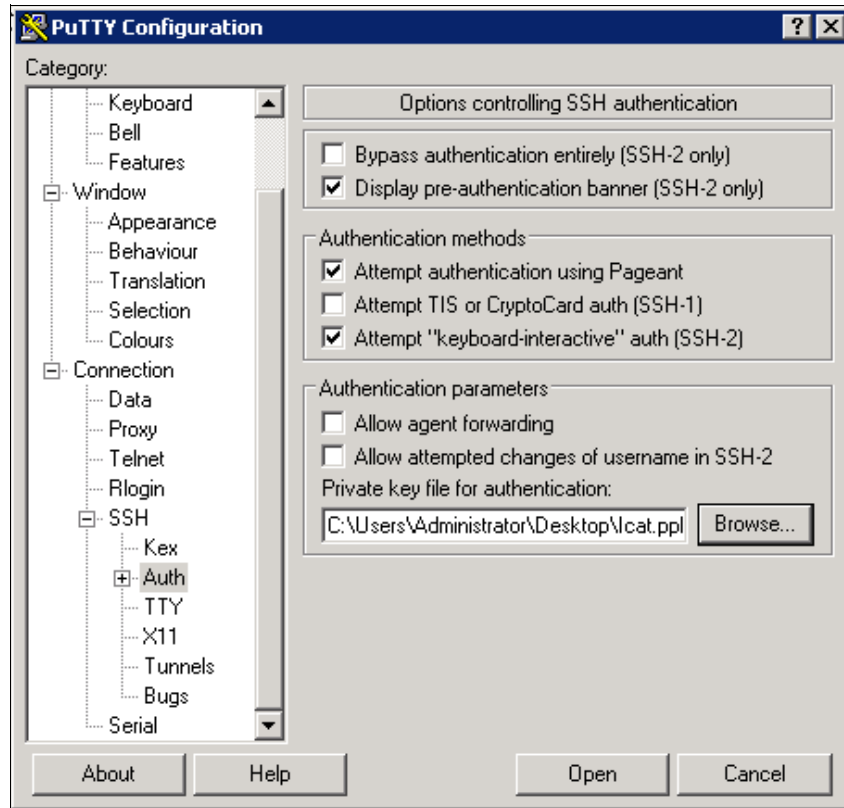

Figure 8-11 Private key for authentication
- In the **Private key file for authentication** field (Figure 8-11), either browse to or type the fully qualified directory path and file name of the SSH client private key file, which was created previously (for example, C:\Support Utils\PuTTY\icat.PPK).